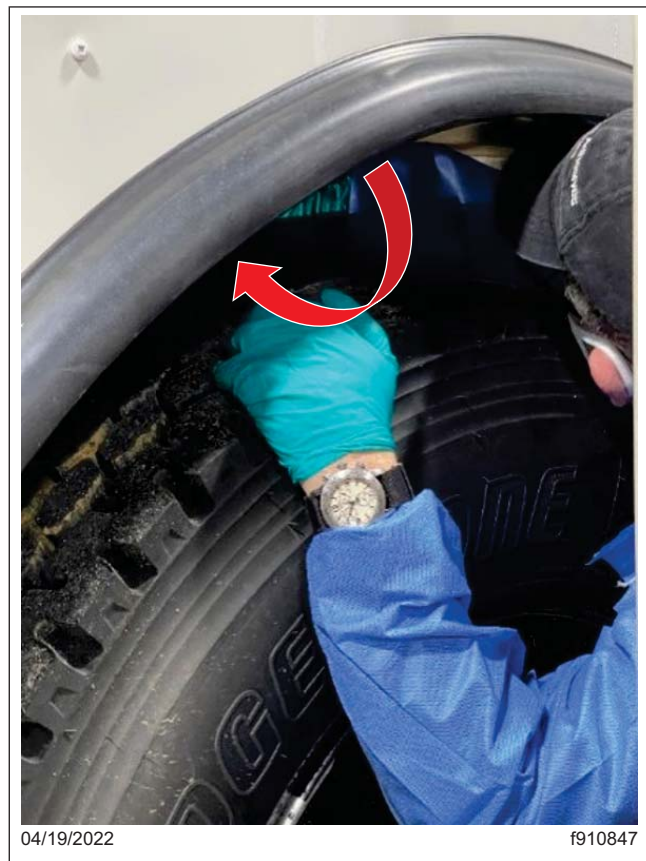

Fig. 10, Inserting the Shim Through Top of the Wheel Well Opening
- 8.1 Pass the shim (short end first) through the top of the wheel well opening, as shown in **Fig. 10**.